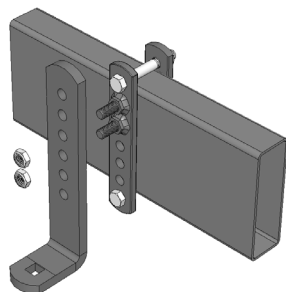

Figure 10
Slide the L-brackets onto the link plate studs with the spring arm plate facing away from the trailer. For the initial setup, leave two (2) holes showing at the top above the studs and two (2) below. *See Figure 10.* They may need to be adjusted up or down later. Thread on the nylock nuts and tighten them - see Figure 10. When weight distribution setup is complete, torque the L-bracket nuts to 75 ft-lbs.